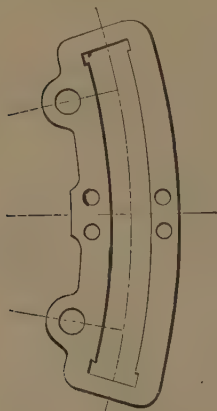
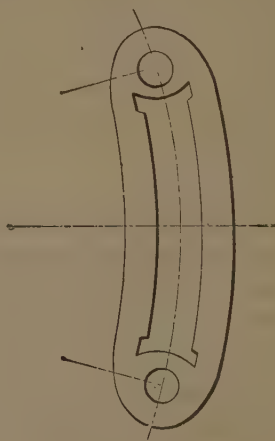

Fig. 158. Usual Link.
Fig. 159. Open Link.
A. One in which the eccentric pins instead of being back of the link as in Fig. 158, are as in Fig. 159.